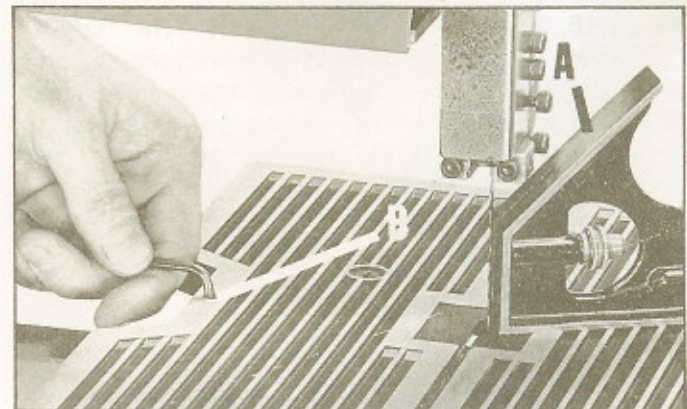

Fig. 19
2. Place a square (A) on the table with one end of the square against the blade, as shown in Fig. 19.
4. Using the hex wrench supplied turn the 90 degree positive stop (B) Fig. 19, until the set screw touches the frame.